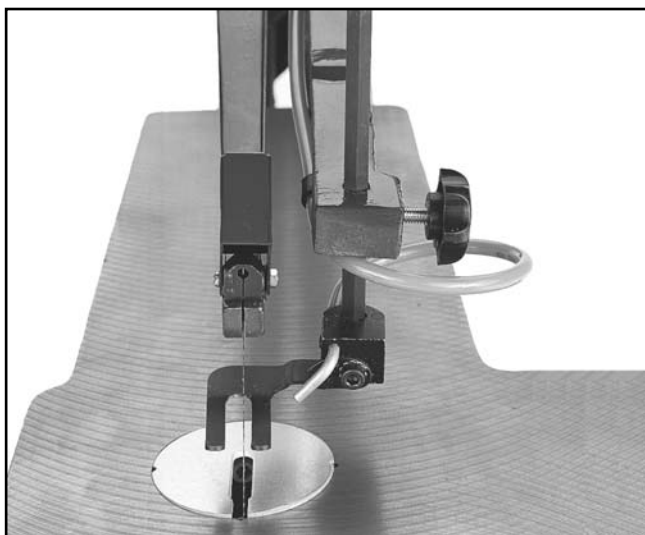

Figure 3.
2. Remove Table Insert and flip open Chuck Guards. **Figure 3.**